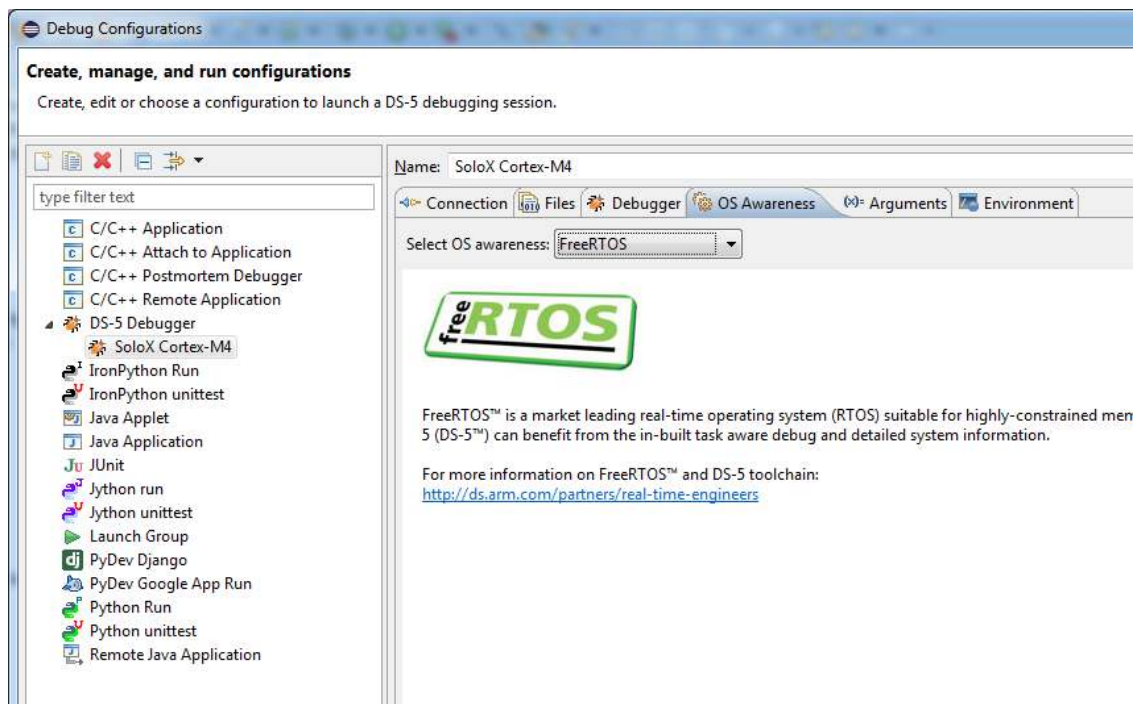

Figure 14 - OS Awareness
- Go to the “OS Awareness” tab and choose FreeRTOS in the list as shown in Figure 14.